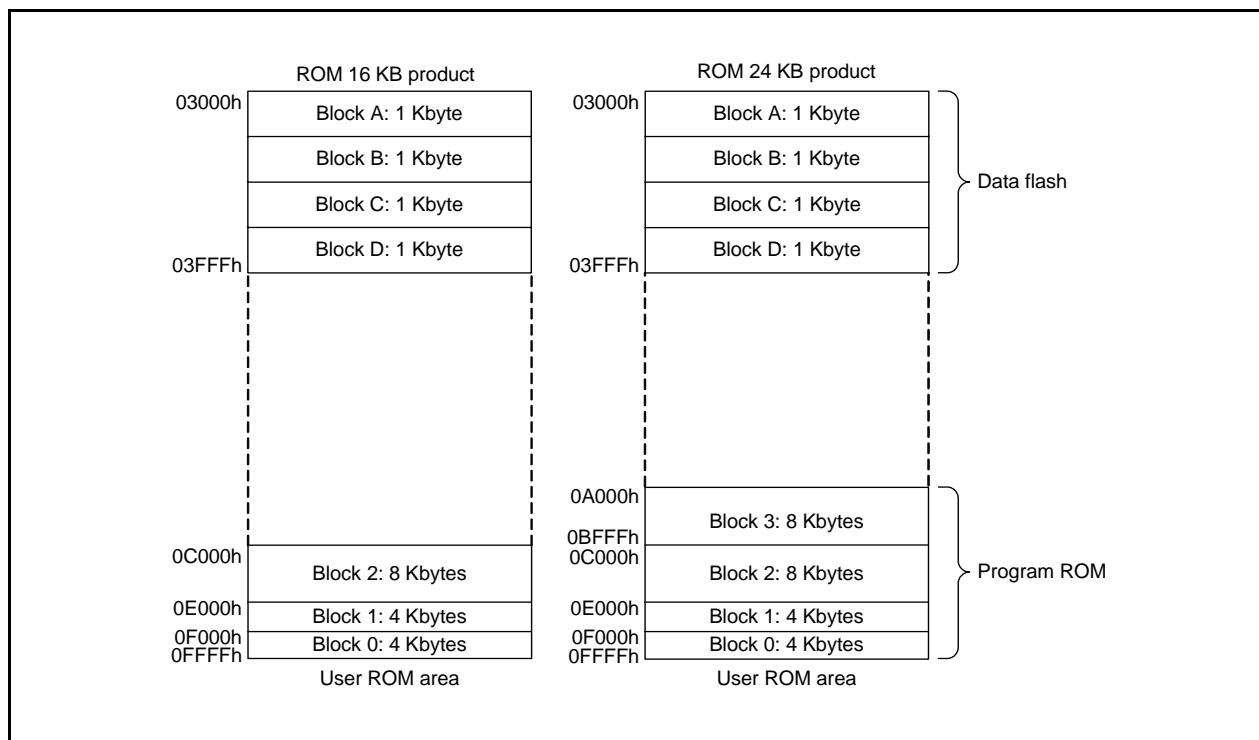

Figure 33.1 R8C/36C Group Flash Memory Block Diagram (1)
- The number of blocks and block division vary with the MCU. Refer to **Figures 33.1 and 33.2 R8C/36C Group Flash Memory Block Diagram** for details.
Figures 33.1 and 33.2 show the R8C/36C Group Flash Memory Block Diagrams.